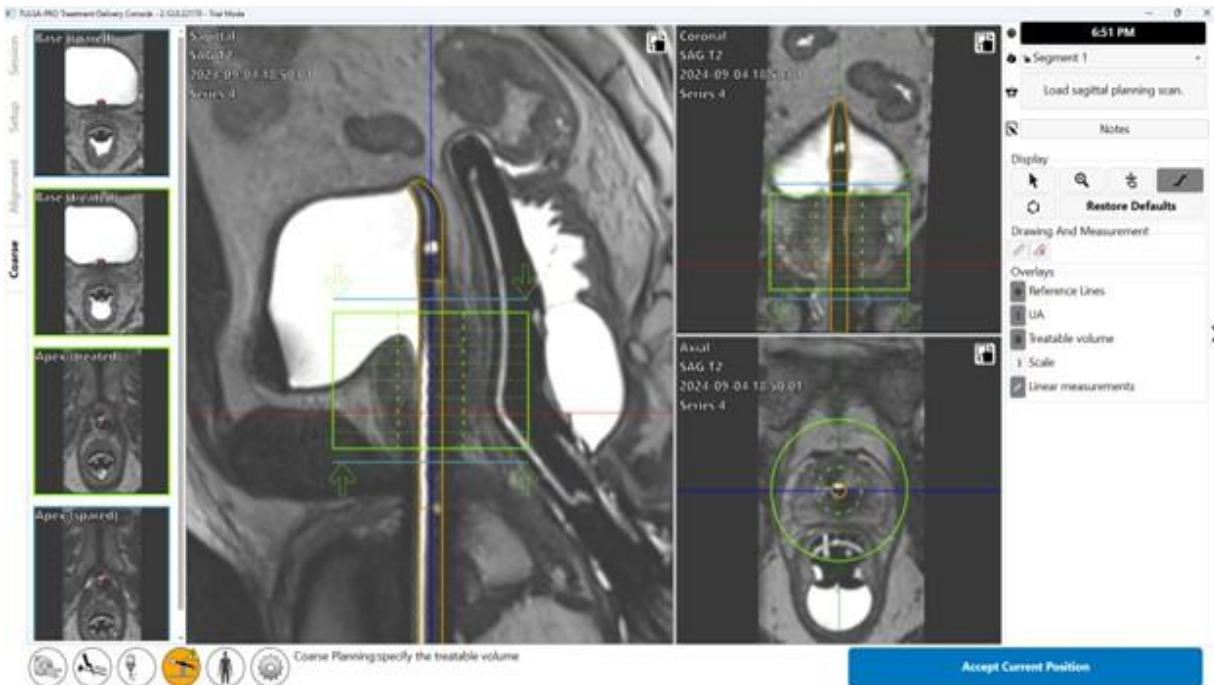

Figure 36: Coarse Planning workspace in TDC software
The treatment volume is displayed as a green rectangle on the sagittal and coronal views. Regions beyond a light blue line displayed 4 mm from the bottom and top edges of the green rectangle on the sagittal and coronal views are anatomical regions expected to be spared fully from thermal coagulation (Figure 36).
**NOTE:** When determining where to position the UA, identify the external urinary sphincter. If the external urinary sphincter cannot be identified, it should be considered immediately adjacent to the prostate apex. Place the light blue line (below the first element) on the external urinary sphincter (Figure 36).